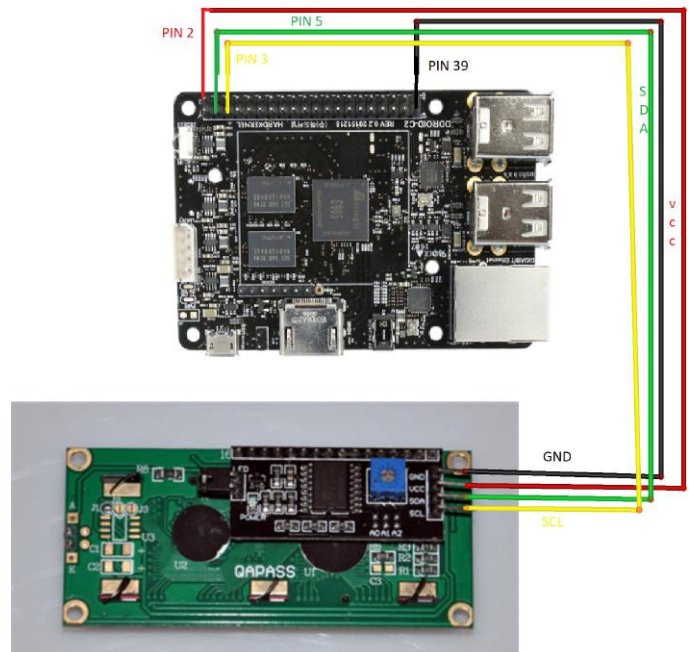

Figure 1 - wiring diagram
- Optional: Power bank with UBEC (3A max, 5V) if you want to operate the device autonomously (see Figure 1). Hardkernel provides a better solution with UPS3 specifically designed for ODROID-C2. You can purchase the UPS3 from their store at this link: <http://bit.ly/211rE25>. The UPS3 is a good choice, as it gives the detector the ability to operate autonomously with greater stability and duration.
For the wiring, please follow the schematic in Figure 1. There are 2 important wires for the communication: the SDA that provides the I2C serial data, and the SCL that provides the I2C serial clock. The SDA is on Pin 3 on the I2C LCD Display and is connected on GPIO Pin 3 of ODROID-C2. The SCL is on Pin 4 and is connected on GPIO Pin 5 of the ODROID-C2. For visual reference see the schematic in Figure 1 and Hardkernel's excellent 40-pin layout for ODROID-C2 (<http://bit.ly/2aXAlmt>). These will help to make sure the wiring is correct. Now that we have our hardware ready, let's see how we can establish a communication between the ODROID-C2 and the I2C Serial LCD Display using the I2C protocol. The GPIO Pin 2 provides the VCC power, +5V, for the LCD Display and GPIO Pin 39 is of course the ground, GND.